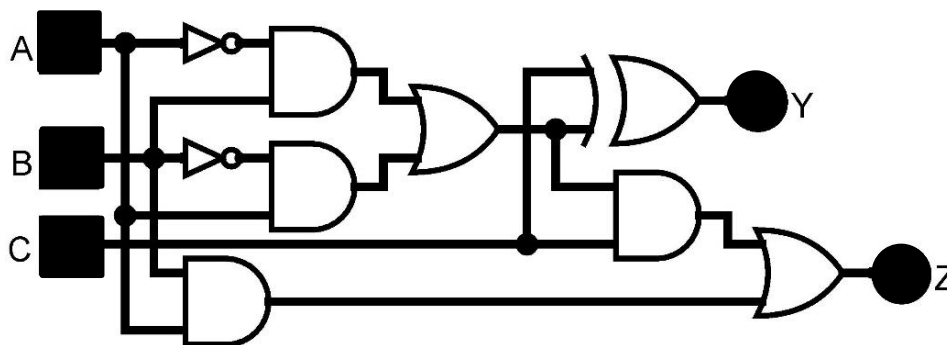

Figure 1(b)
- (b) Produce the simplest Boolean expressions for Y and Z in Figure 1(b) and interpret the expression to minimum 2-input NAND gate implementation only. State the minimum number of NAND gates and 7400 ICs (Integrated Circuits) used for the design. Show working clearly.